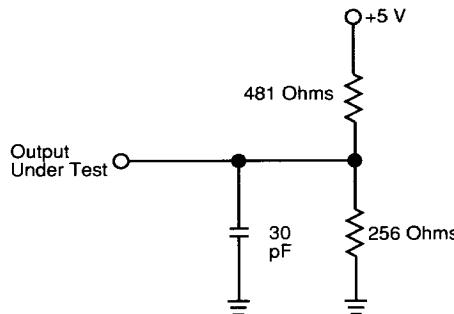
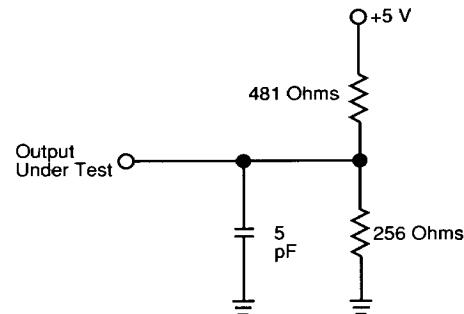

Figure 2. AC Test Load
Figure 3. AC Test Load
Output Load—As specified in Figure 2 or Figure 3 (includes jig and/or scope capacitance)
- (1) Test Conditions assume signal transition times of 5 ns or less, timing reference levels of 1.5V, Input pulse levels of 0 to 3.0V and output loading specified in Figure 2.
- (2) t_{OHZ} , t_{CHZ} and t_{WHZ} are tested with the load in Figure 3. Transition is measured ± 500 mV from steady state voltage.
- (3) At any given temperature and voltage conditions t_{CHZ} is less than t_{CLZ} for all devices. These parameters are sampled and not 100% tested.
- (4) The internal write time of the memory is defined by the overlap of \overline{CE}_1 low, CE_2 high and \overline{WE} low. All signals must be in their valid state to initiate a Write and any of the three signals can terminate the Write by going false. The Data Input Setup and Hold timing are referenced to the rising edge of the signal that terminates the Write.
- (5) \overline{WE} is high for a Read cycle.
- (6) The device is continuously selected. \overline{OE} , $\overline{CE}_1 = V_{IL}$, $CE_2 = V_{IH}$.
- (7) Address is valid prior to or coincident with \overline{CE}_1 low and CE_2 high transitions.
- (8) I/O will assume the High-Z state if $\overline{OE} \geq V_{IH}$.
- (9) $T_A = +25^\circ\text{C}$.
- (10) t_{RC} = Read Cycle Time.
- (11) This parameter is guaranteed but not tested.